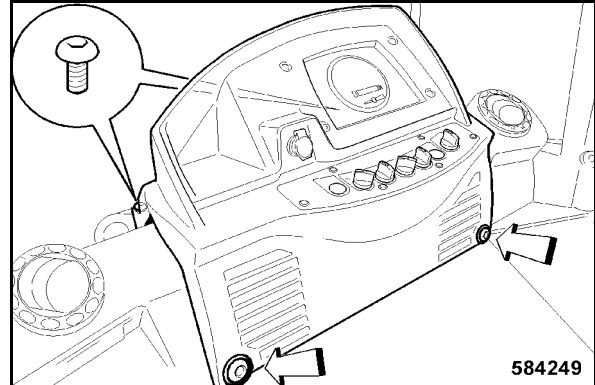

Fig. 220
- Insert the dashboard and fasten it with four fastening screws (Fig. 220).